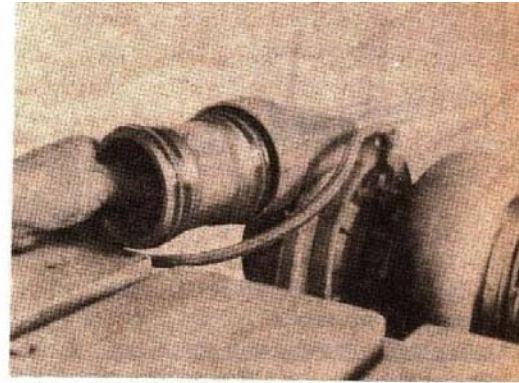

Fig. 14-102, Install the air crossover tube
9. Lubricate the O-rings with a clean engine lubricating oil. Put the air crossover tube into the inlet opening or turbocharger compressor housing. Fig. 14-102